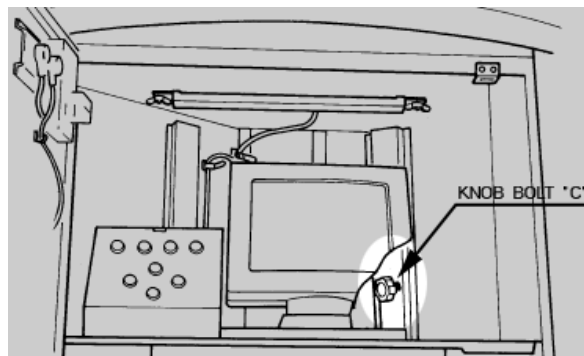

Fig. 30
11. Tighten the knobbolt C at the right side in the main control unit to secure the station unit No. 12 to the main control unit. Refer to Fig. 30.